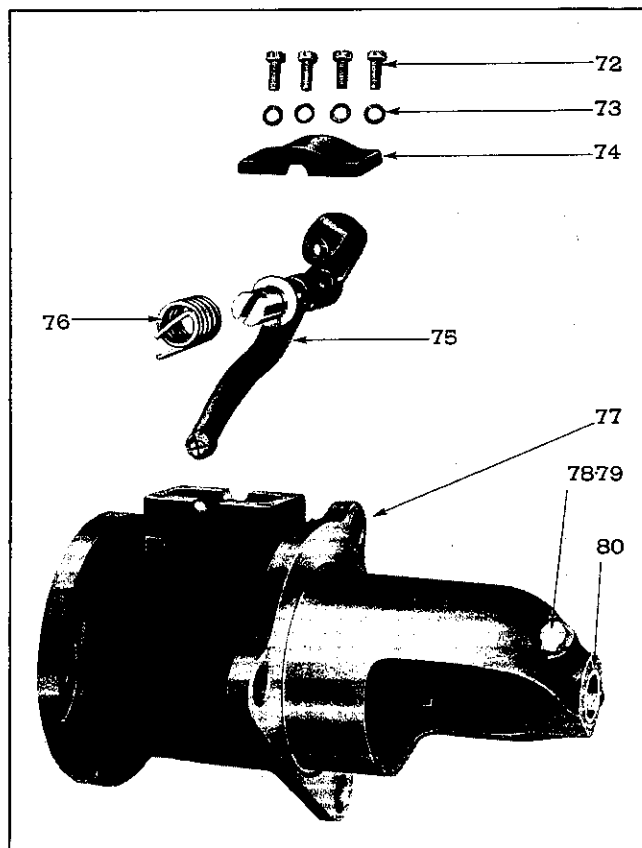
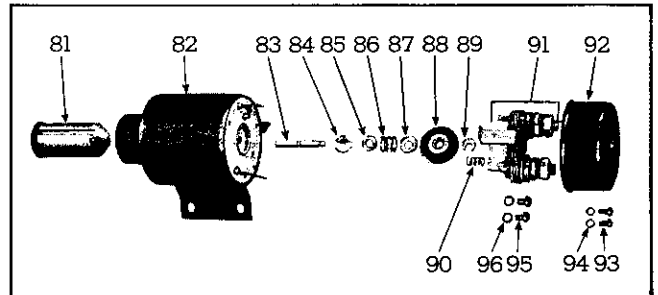
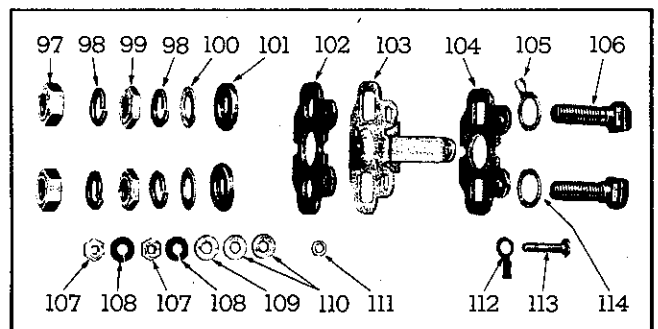

Fig. 20—Motor Drive Housing Details and Relative Location of Parts.
Fig. 21—Solenoid Switch Details and Relative Location of Parts.
Fig. 22—Solenoid Switch Terminal Bracket Details and Relative Location of Parts.
and (97), Fig. 22, remove lock washers (34) and (98). Cable assembly (3) may now be removed.
2. Remove cotter key (8) and pull pin (7).
3. Unscrew four solenoid mounting screws (9) and remove four lock washers (10). Solenoid assembly (5) may now be removed from field frame assembly (4).
4. Unscrew five motor drive housing screws (13) and remove five plain washers (14) and five lock washers (15). Lock washers (15) should be discarded. Grasp drive end housing (12) and pull away from field frame assembly (4). When armature shaft (23) is free of bushing (80) (See Fig. 20) manipulation of the drive end housing (12) will free the stud on the Dyer shift lever (75) from the slot in the shift sleeve (27). Drive end housing (12) with shift lever attached, can then be removed.
5. Remove motor drive pinion stop collar cotter pin (32). Pinion stop collar (31) may now be removed from armature shaft.
6. Grasp shift sleeve (27) and pull shift sleeve away from armature core. Motor drive pinion (30), motor drive pinion meshing spring (29), and motor drive pinion guide (28) will turn off the armature shaft along with the shift sleeve (27). Cupped space washer (26) can now be slipped from armature shaft along with space washer (25).
7. Grasp center bearing (11) and pull away from armature core. Space collar (24) can now be pulled from armature shaft. Press bushing (16) from center bearing. Oiler (17) and oil wick (18) can be removed.
8. Remove cover band (1) by prying under snap with a screw driver. Unscrew two brush lead screws (20) which connect ends of two field coils to brush lead clips. Remove two lock washers (19). Unscrew four commutator end frame attaching screws (21), remove four plain washers (14) and four lock washers (15). (Discard lock washers (15). Commutator end frame assembly (2) may be removed from field frame assembly (4).
1. Remove end of shift lever spring (76) from slot in shift lever (75). (See Fig. 20.)
2. Unscrew four cap attaching screws (72) and remove four lock washers (73). Cap (74) and shift lever (75) may be removed.
3. Remove oiler (78) and oil wick (79). Bushing (80) may be pressed from housing (77).
VI. Disassemble Solenoid Switch—(Refer to Figs. 21 and 22.)
2. Tilt solenoid case assembly (82) (Fig. 21) and plunger (81) will fall out.
3. Remove terminal end cover (92) by removing bolts (93) and lock washers (94).
4. Remove terminal nut (97) (Fig. 22), lock washer (98), lock nut (99), lock washer (98), plain washer (100), and insulating washer (101) from both copper terminal studs (106).
5. Remove stud nut (107), lock washer (108), nut (107), lock washer (108), plain washer (109) and two insulating washers (110) from insulating stud (113). Remove insulating plate (102) from bracket
6. Remove two screws (95) (Fig. 21) and lock washer (96) and withdraw bracket (103) (Fig. 22) and insulating plate (104), together with battery terminal (106) and plain washer (114) away from end of solenoid case assembly (82).
1. Unscrew two terminal stud nuts (99) and remove two lock washers (98). Slide two plain washers (100) from two terminal studs (106). Next remove two insulating washers (101). (See Fig. 22.)
2. Unscrew terminal stud nut (107) and remove lock washer (108). Unscrew next terminal stud nut (107) and lock washer (108). Slide plain washer (109) and two insulating washers (110) from terminal stud (113).
3. Remove two terminal studs (106) and stud (113). Clips (105) and (112) may be removed along with plain washer (114). Pull insulating plates (102) and (104) from bracket (103). Remove insulating washer (111) from metal terminal bracket (103).
VII-A and VI-A. Assemble Solenoid Switch—Refer to Figs. 21 and 22 and assemble solenoid switch as follows:
13. Place cover (92) over terminals and next to end of solenoid (82) and attach with two lock washers (94) and screws (93).
14. Screw link assembly (6) (Fig. 16) into solenoid plunger (81) (Fig. 21) and install plunger into solenoid.